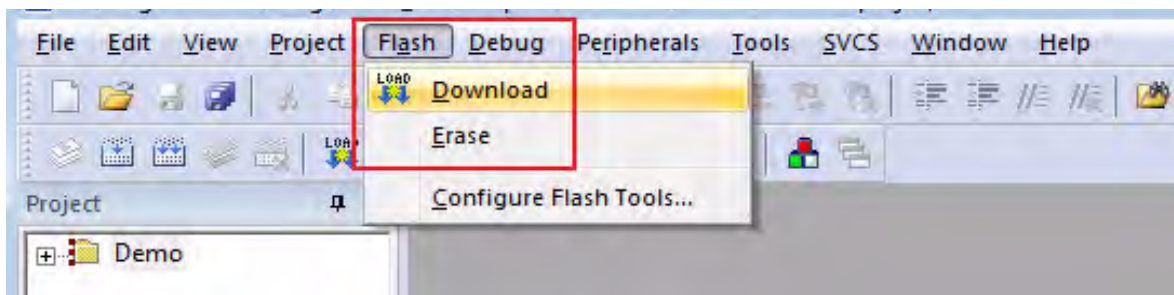

Figure 41. The Keil IDE Flash Menu
5. From the **Flash** menu of the Keil IDE (see Figure 41), select either of the following options: